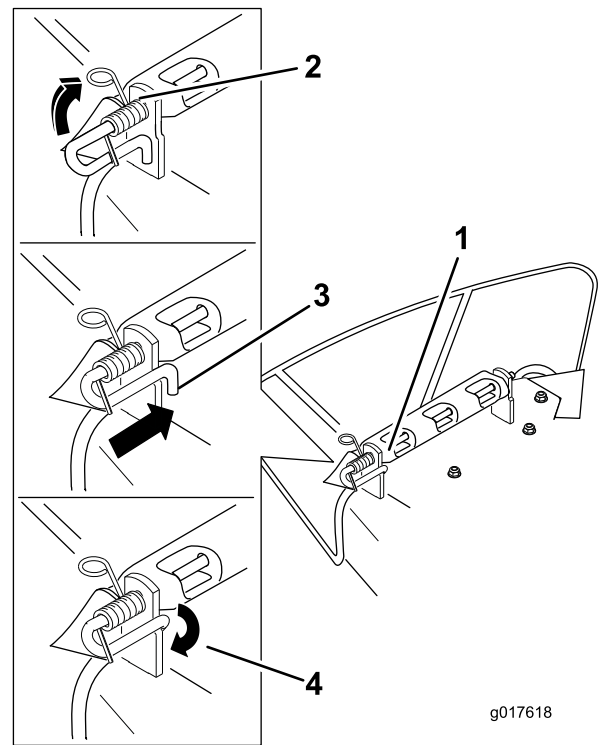

Figure 62
4. Lift the loop end of the spring and place it into the notch on the deflector bracket (Figure 62).
5. Secure the rod and spring assembly by twisting it so the short end of the rod can be placed behind the front bracket welded to the deck (Figure 62).